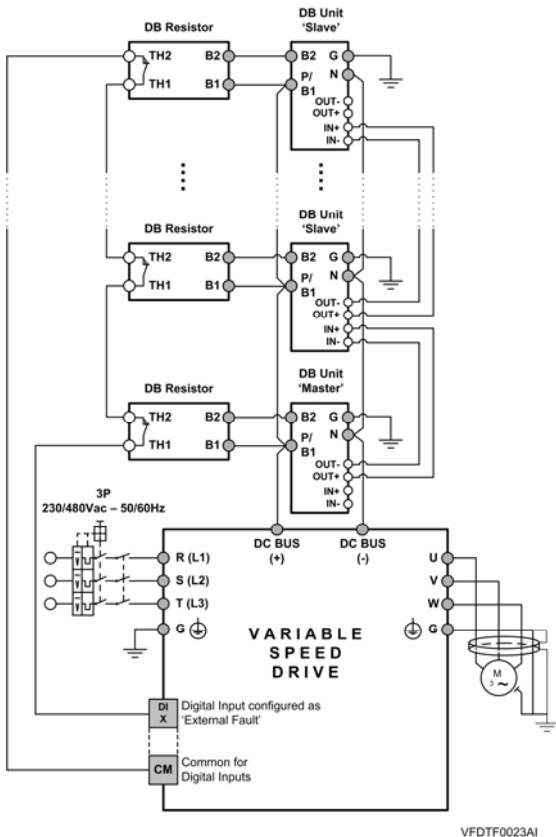

Figure 4.8 Connections between drive – DB Units (G2) – braking resistors, in 'Master / Slave' operation mode. Connection of the braking resistor trip
- Terminals B1 and P are the same one in the dynamic braking units of the Group 2. Therefore, this terminal will be connected to terminal B1 of the braking resistor and to the positive terminal of the DC Bus of the drive at the same time. See connections in figure 4.8.
See figure 4.8.